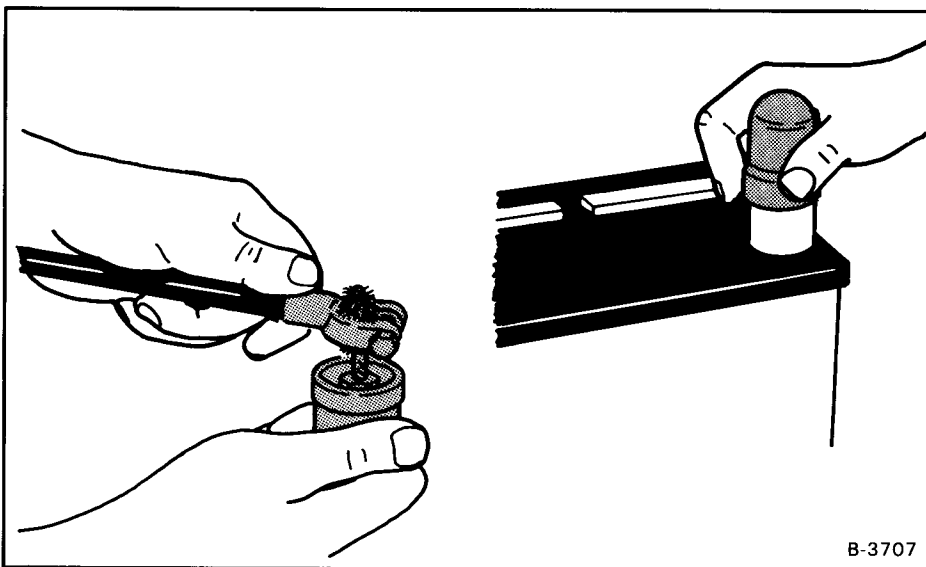

Fig. 62 Cleaning Battery Terminals
3. Clean the terminal posts (Fig. 62) of the new battery in the engine compartment. Install the holddown clamp.